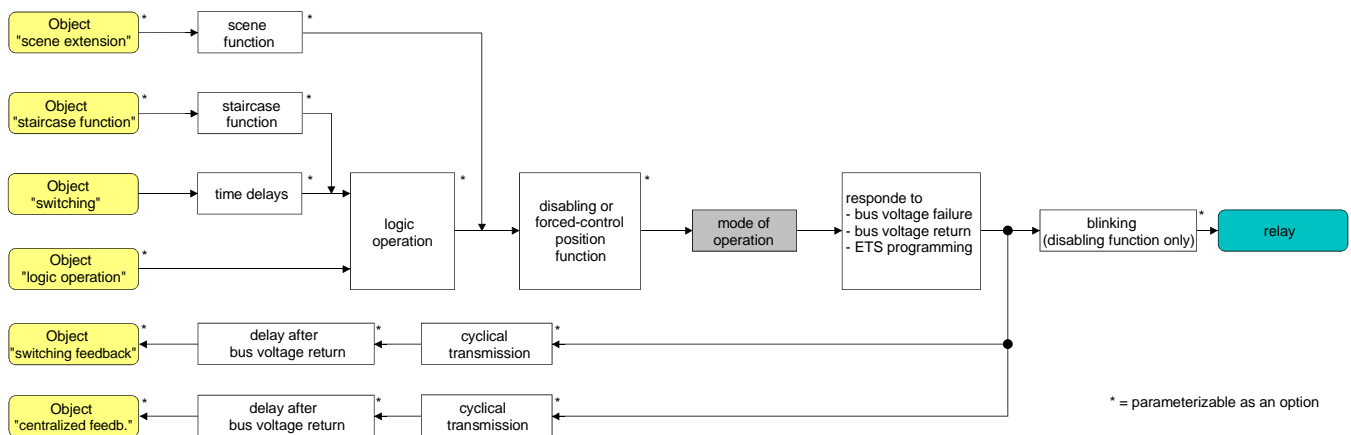

Fig. 6: Functional diagram "Mode of operation"
- ❗ The logic switching state ("on - 1" or "off - 0") is set by the communication object "Switching" and influenced by the functions that can be optionally activated (e.g. timing/staircase functions, logic operations, disabling/forced-control position functions, scenes – cf. Fig. 6).